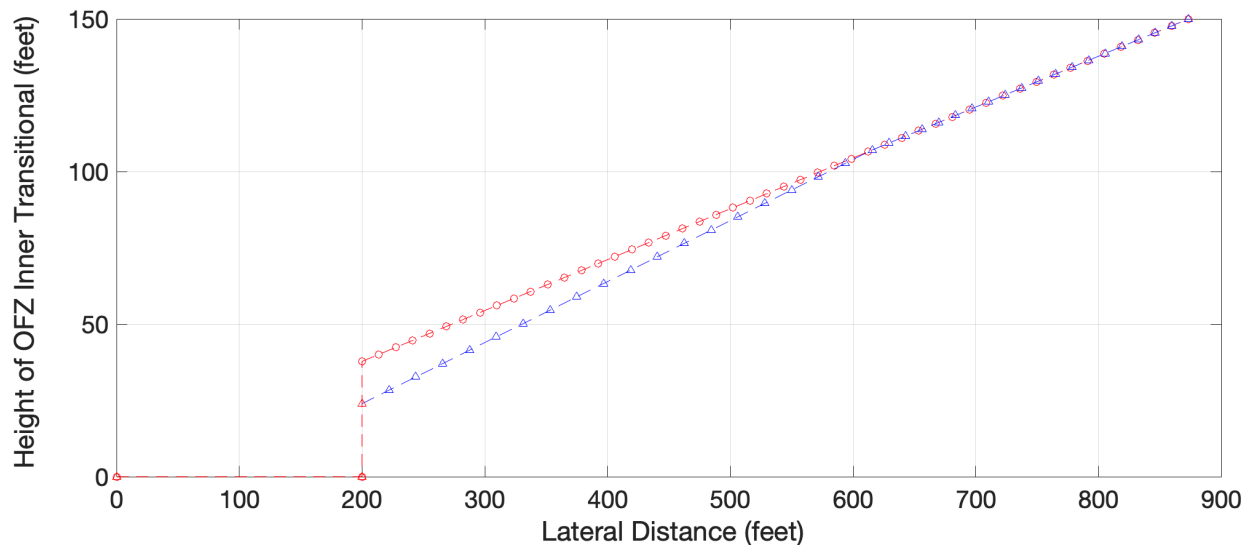

Figure 1. Inner Transitional OFZ Surface for Boeing 787-8 at 1,560 feet Elevation.
This problem analyzes the obstructions to navigation for the airport configuration shown in Figure 1. The airport is located at an elevation of 1,560 feet above mean sea level conditions. Runway 6/24 is a precision runway. Runway 14/32 is a non-precision runway with visibility minima down to 3/4 mile. The critical aircraft operating at the airport is the Boeing 787-8 Dreamliner (see Figure 2).
- a) Analyze the three objects shown in Figure 1 and determine if any of the objects is an obstruction to navigation. In your analysis, include checks for the following criteria:
- IV) The hangar does not violate the inner transitional OFZ surface (see Figure 1). At 1,040 feet from the runway centerline, the inner transitional OFZ has reached 150 feet (the height of the horizontal surface).